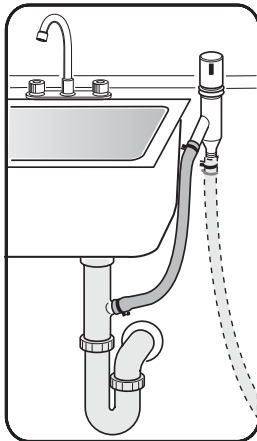

Figure 25
- 3 To the undersink dishwasher drain connection through an air gap, as shown in **Figure 25**.